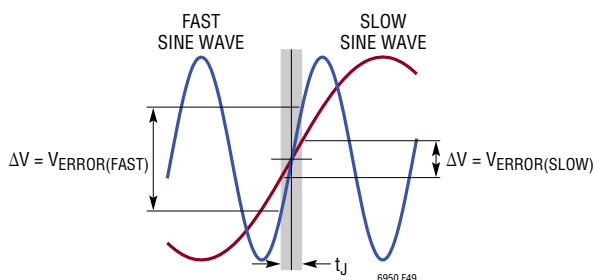

Figure 49. Fast and Slow Sine Wave Signals Sampled with a Jittery Clock
Degradation of the SNR due to sample clock jitter only occurs if the input signal is slewing. If the input signal is stationary (DC) then it does not matter when in time the sampling occurs. Additionally, a faster slewing signal yields a greater error (more noise) than a slower slewing signal. Figure 49 demonstrates this effect. Note how much larger the error term is with the fast slewing signal than with the slow slewing signal. To maintain the data converter's SNR performance, digitization of high input frequency signals requires a clock with much less jitter than applications with lower frequency input signals.